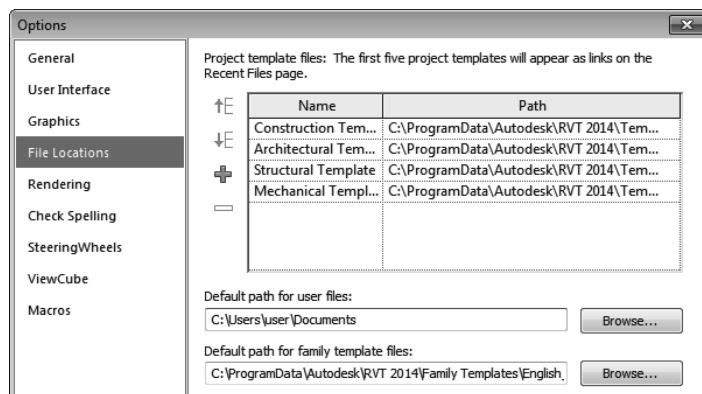

Figure 1–45
- When you save a title block, it should be on the network where everyone has access to it. That way, it is not deleted if someone reinstalls the Autodesk Revit software. Set the default location for the family template files in the Options dialog box, in the *File Locations* tab, as shown in Figure 1–45.